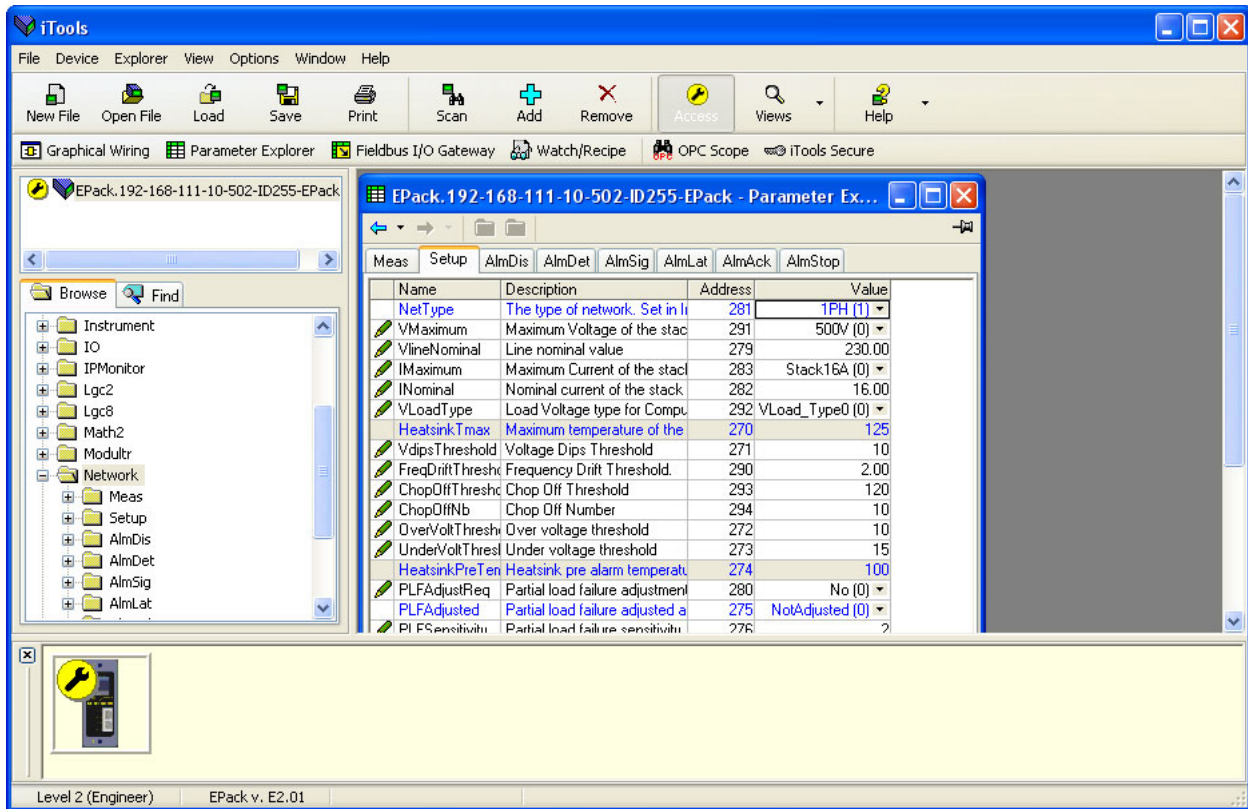
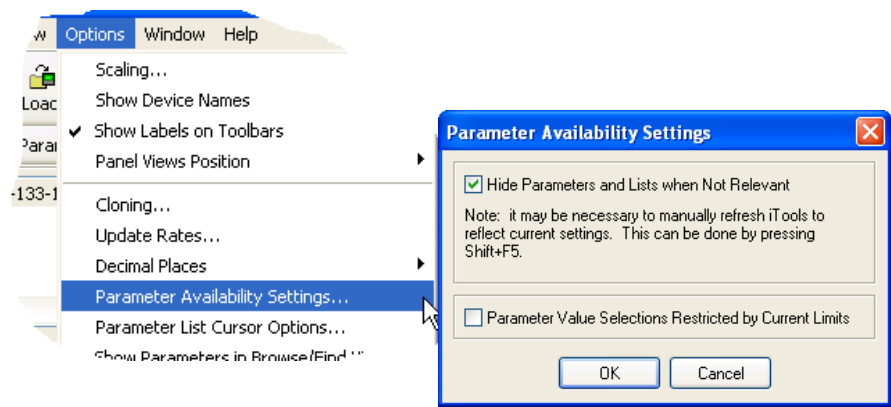

Figure 104 Parameter table example
Figure 107 Show/Hide parameters
In each case the function block parameters appear in the iTools window in tabular form, such as the example in Figure 104.
- Parameters in blue are non-editable (Read only). In the example above all the parameters are read only. Read/write parameters are in black and have a 'pencil' symbol in the 'read/Write access column at the left edge of the table. A number of such items are shown in Figure 104, above.
- Columns. The default explorer window (Figure 104) contains the columns 'Name', 'Description', 'Address' and 'Value'. As can be seen from Figure 107, above, the columns to be displayed can be selected, to a certain extent, using either the 'Explorer' menu or the context menu. 'Limits' have been enabled for the example above.
- Hidden Parameters. By default, iTools hides parameters which are considered irrelevant in the current context. Such hidden parameters can be shown in the table using the 'Parameter availability' settings item of the options menu (Figure 107). Such items are displayed with a shaded background.